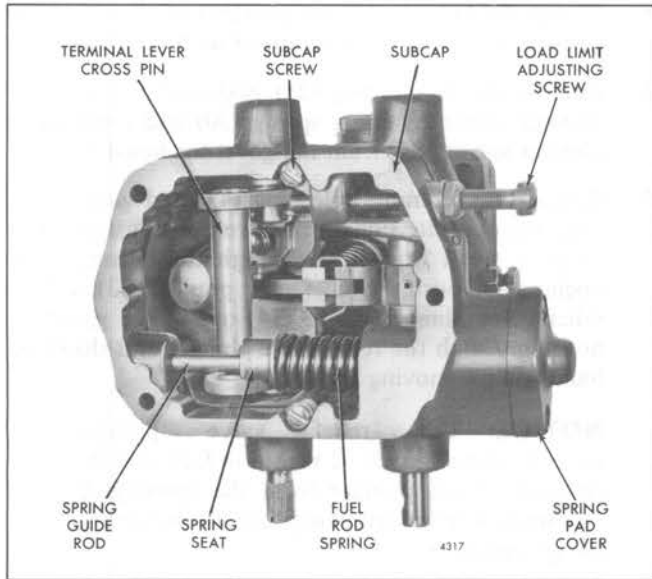

Fig. 7 - Top View of Governor with Cover Removed
4. To facilitate the removal of the governor subcap, disassemble the subcap before removal from the governor housing. Refer to Figs. 7 and 8 and proceed as follows: